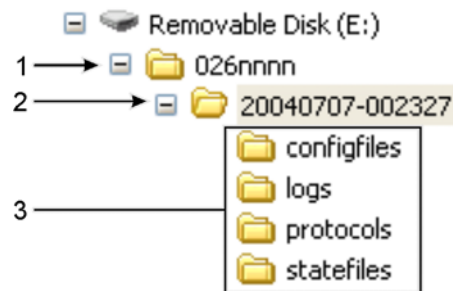

Figure 61. Remote device folder structure
1. All files for a particular instrument are stored in a folder with the instrument's name (see item 1 in Figure 61).
2. Each file transfer operation creates a sub-directory with a name corresponding to the time and date the transfer commenced (see item 2 in Figure 61).
3. Each file type (except Incident report) has a sub-directory that contains the transferred files (see item 3 in Figure 61).